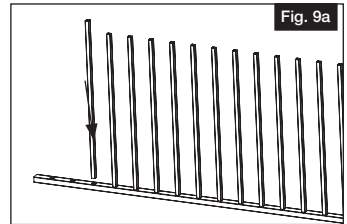

Fig. 9a
- a. Lay bottom rail on a flat non abrasive surface with the route holes facing up. Press balusters down into route holes until seated firmly into the bottom rail (Fig. 9a).